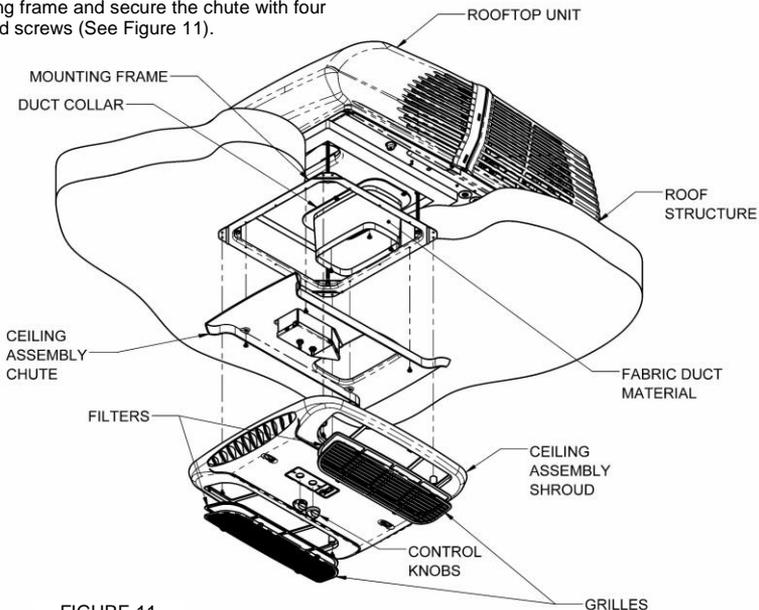

FIGURE 11
- B. Fasten the duct collar to the roof top unit basepan with 3 provided screws (See Figure 11).
- H. Raise the ceiling assembly chute to the unit mounting frame and secure the chute with four provided screws (See Figure 11).
- K. Raise the ceiling shroud, ensuring it meshes with the chute, and secure to the mounting frame with the four provided screws. (See Figure 11).